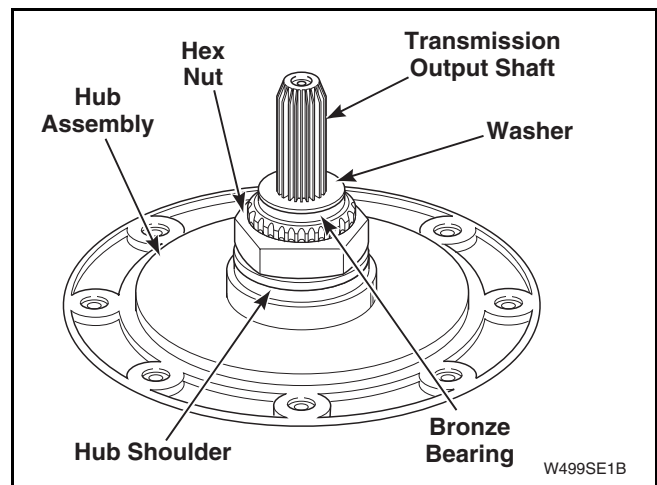

Figure 41
- j. Remove large hex nut using a No. 306P4 Hex Wrench. Refer to *Figure 41*.